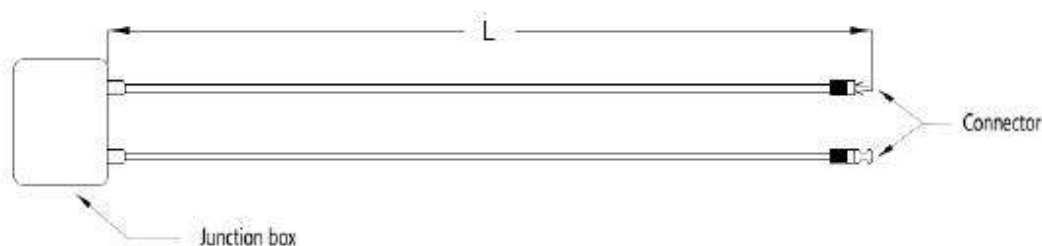

Figure 9: Junction box
h) The cable of the junction box is defined as L, as showed below in Figure 9. For TPL Solar standard module, L is 900/1200mm; and for customized module, L can be based on your condition. Please take the cable length into consideration before designing the wiring layout.